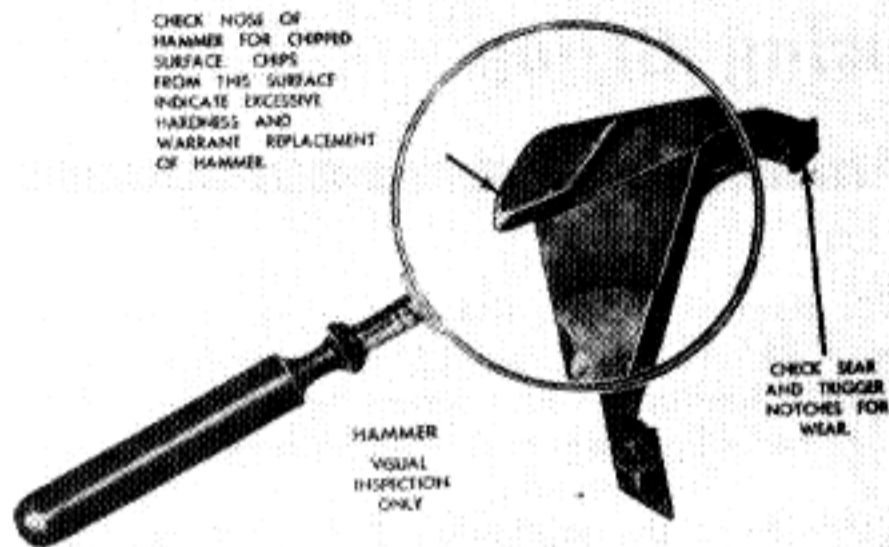

Fig. 147. Points to inspect on hammer.
70. Hammer: check the nose of the hammer for wear or slipping (Fig. 147). Chips indicate excessive hardness and warrant replacement of the hammer. Check sear and trigger notches for wear.